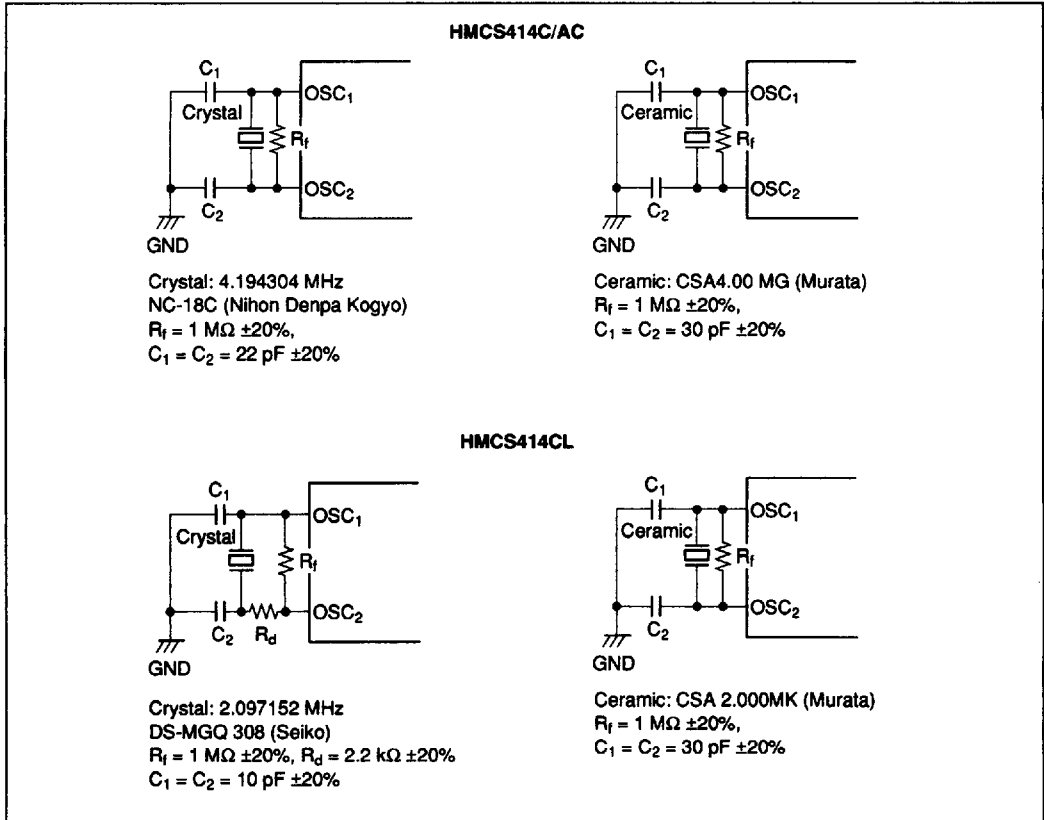

Figure 29 Oscillation Circuits
- Notes: 1. The oscillator stabilization time is period from when V_{CC} reaches its minimum allowable voltage (HMCS414C: 3.5 V, HMCS414CL: 2.5 V, HMCS414AC: 4.5 V) at power-on until when the oscillator stabilizes, or after RESET goes high. At power-on or recovering from stop mode, apply the RESET input for more than t_{RC} to meet the necessary time for oscillator stabilization. Since t_{RC} depends on the crystal or ceramic circuit constant and stray capacitance, consult with the crystal or ceramic oscillator manufacturer when designing the reset circuit. (See figure 29.)